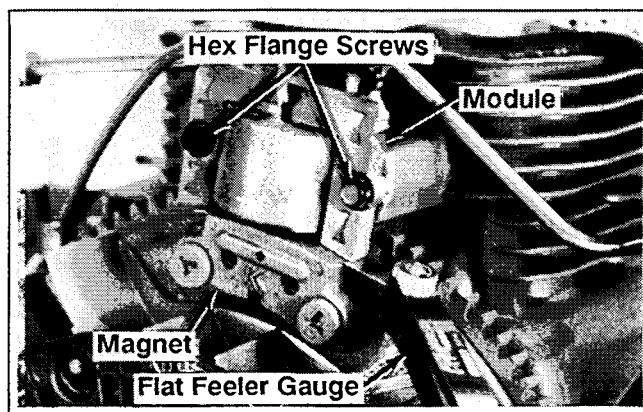

Figure 11-25. Installing Ignition Module.
2. Insert a **10 mm (0.394 in)** flat feeler gauge or shim stock between the magnet and ignition module. See Figure 11-25.